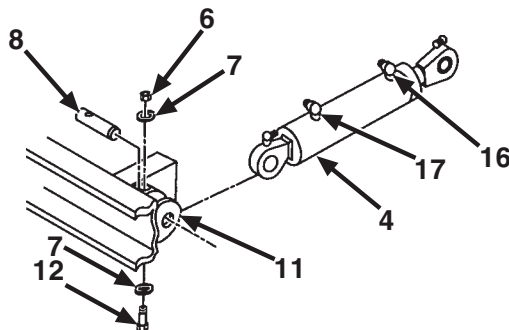

Figure 72. Track Adjusting Cylinder Rod End.
Step 3 applies to Figure 72.
3. With ports (item 16 and 17) pointing up, connect fixed end of hydraulic track adjusting cylinder (item 4) to hull mounting bracket (item 11) with pin (item 8), washer (item 7), screw (item 12), washer (item 7), and new locknut (item 6).